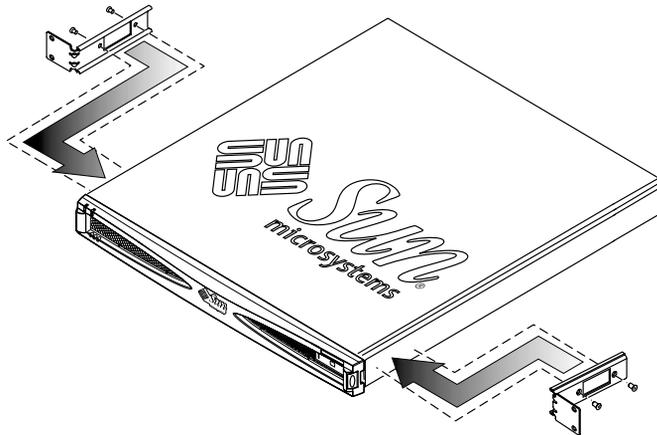

FIGURE 3-12 Attaching Brackets Towards the Front of an Array (for Two-Post Rack Install)
- a. For front-mounting, insert and tighten two screws through each bracket into the second and third tapped holes toward the front of the array (FIGURE 3-12).